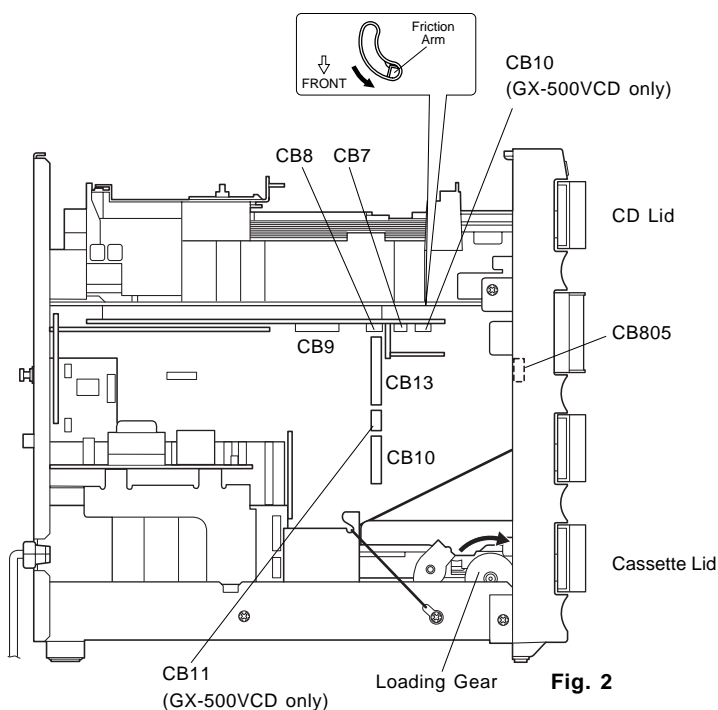

Fig. 2
- Push the Friction Arm (the bottom side of the CD/VCD Mechanical Unit) with the Ejecting Tool or a tool like as shown in Fig. 2.
- Pull the Tray forward approx. 5cm (2") and remove the CD Lid in Fig. 2.
- Disconnect the Flat Connecting Cables (CB9) and remove 3 connectors (CB8 , CB7 and CB10) in Fig. 2
- Rotate the Loading Gear, then open the Tray and remove the Cassette Lid in Fig. 2.
- Disconnect the flat connecting cables (CB10, CB13 and CB11) and remove a connector (CB805) in Fig. 2.
- Connect the flat connecting cables (CB10, CB13 and CB11) and remove a connector (CB805) in Fig. 2.